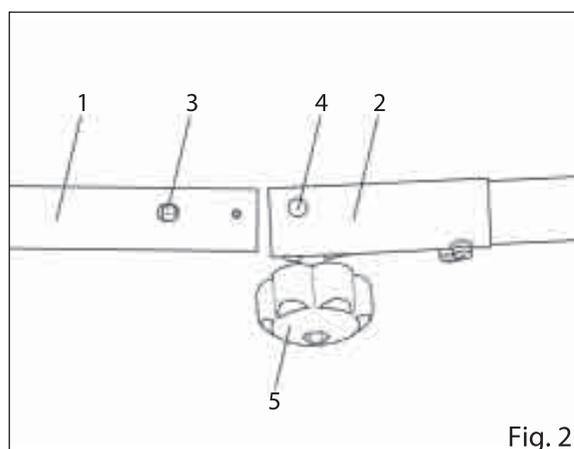

Fig. 2
- Connect the shaft of the brush cutter (Fig. 2).
Insert the bottom part of the shaft (Fig 2, point 1) into the coupling (Fig 2, point 2), which is a part of the top part of the shaft. The locking pin (Fig 2, point 3) must fit into the hole (Fig 2, point 4). Then secure both parts in place by tightening the screw (Fig 2, point 5). For easier transport of the brush